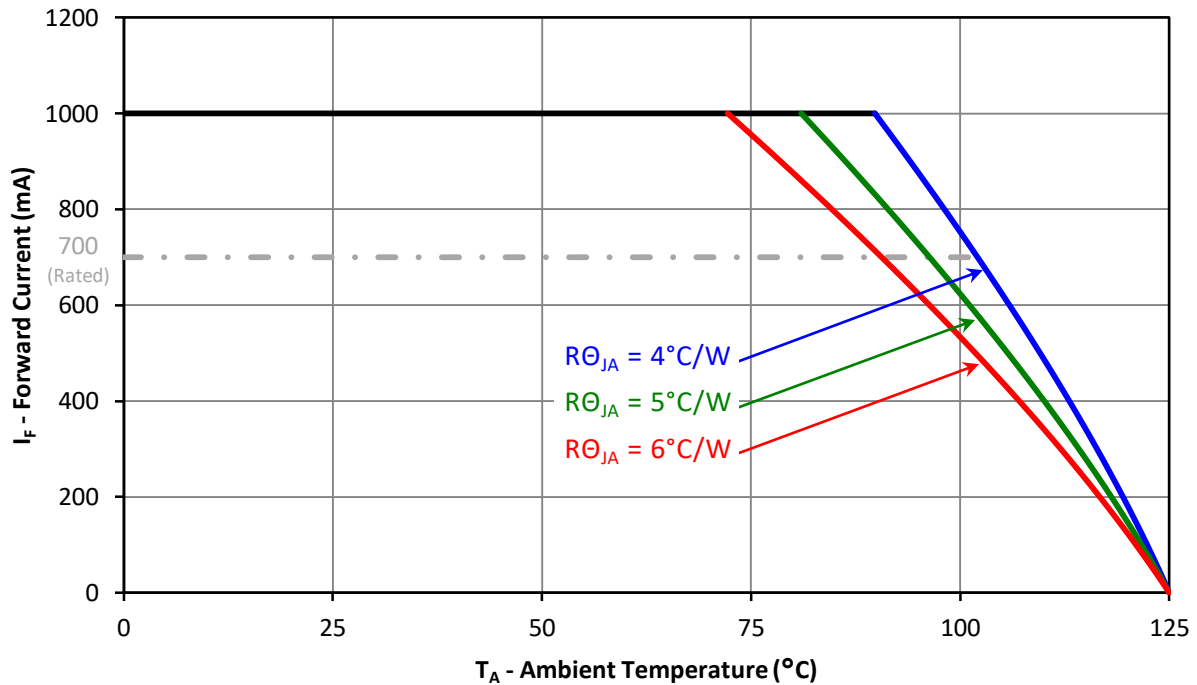

Figure 10: Maximum forward current vs. ambient temperature based on T_{J(MAX)} = 125°C.
- Maximum DC forward current (per die) is determined by the overall thermal resistance and ambient temperature. Follow the curves in Figure 10 for current derating.
Notes for Figure 10: